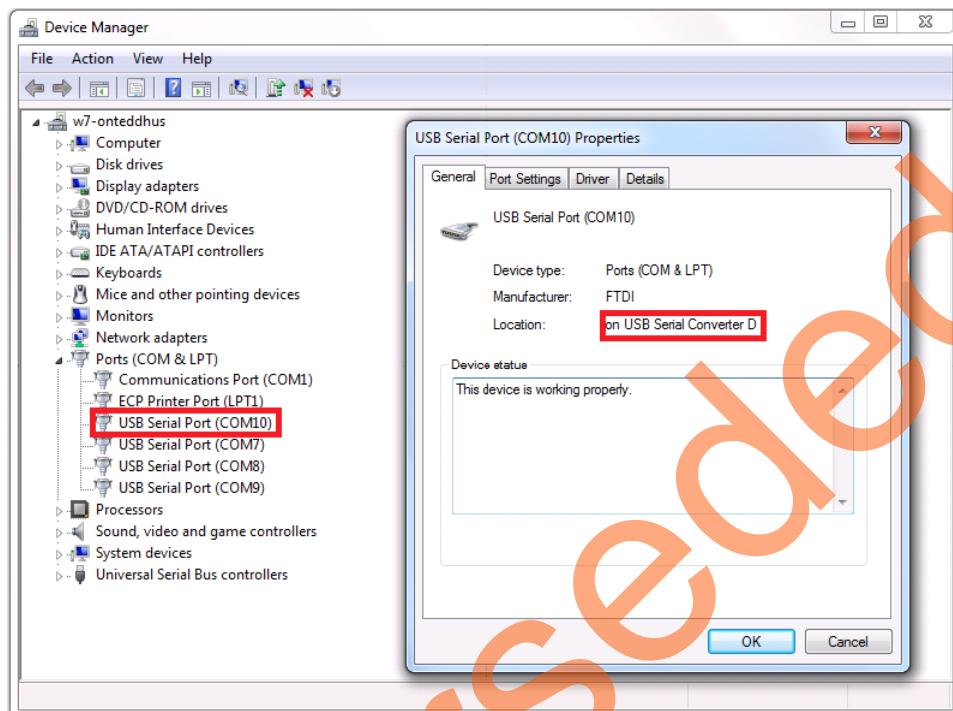

Figure 38 • Device Manager Window
2. Connect the host PC to the J24 connector using the USB Mini-B cable. The USB to UART bridge drivers are automatically detected. Of the four COM ports, select the one with Location as **on USB Serial Converter D**. Figure 38 shows an example Device Manager window.